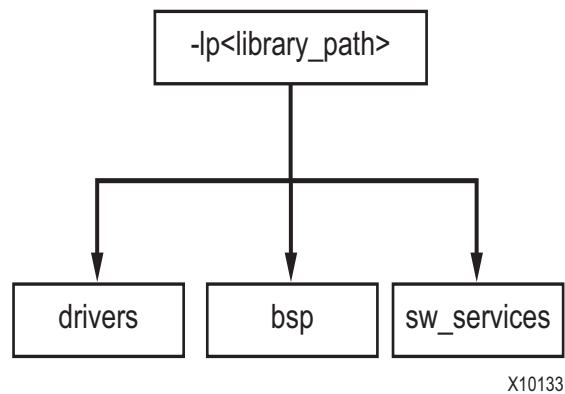

Figure 1-1: Peripheral Directory Structure
2. Search `<library_path>/<Library Name>/pcores` as specified by the **-lp** option. Figure 1-1 shows the peripheral directory structure.